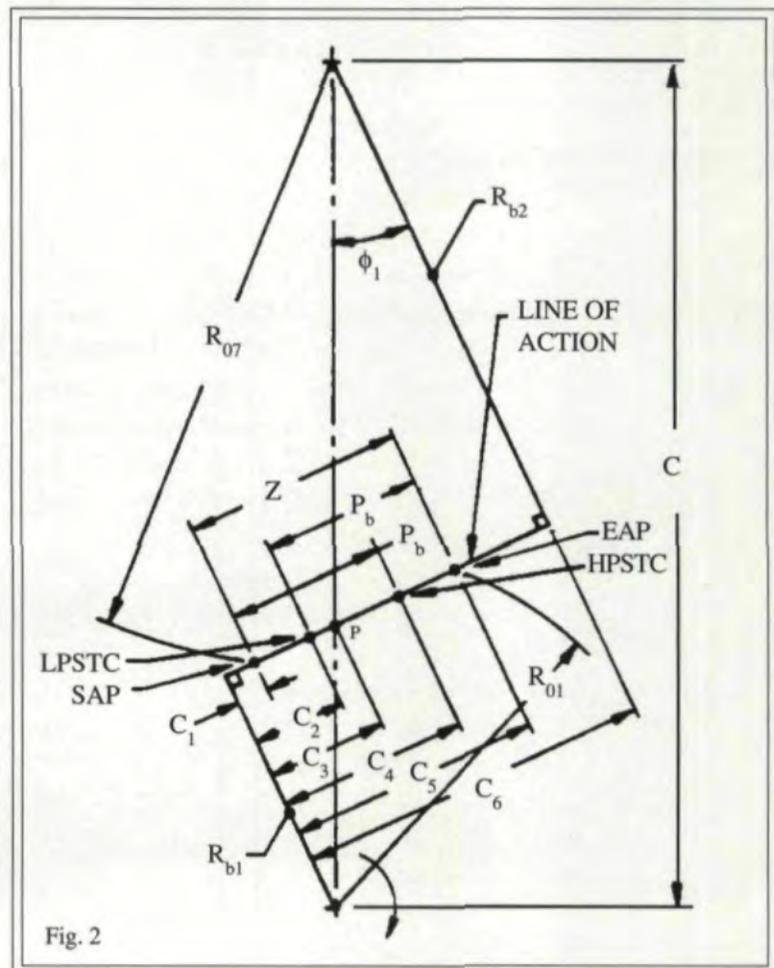

Fig. 2
$C_1$  = distance to SAP (See Fig. 2)
$C_5$  = distance to EAP (See Fig. 2)
$C_6$  = distance between interference points (See Fig. 2)
**Balanced flash temperature.** Maximum scuffing resistance is obtained by minimizing the contact temperature. This is done by iteratively varying the addendum modification coefficients of the pinion and gear, while calculating the flash temperature by Blok's equation, until the flash temperature peaks in the approach and recess portions of the line of action are equal. The flash temperature should be calculated at the points SAP, LPSTC, HPSTC, EAP, and at several points in the two pair zones (between points SAP and LPSTC and between points HPSTC and EAP. (See Fig. 2.)